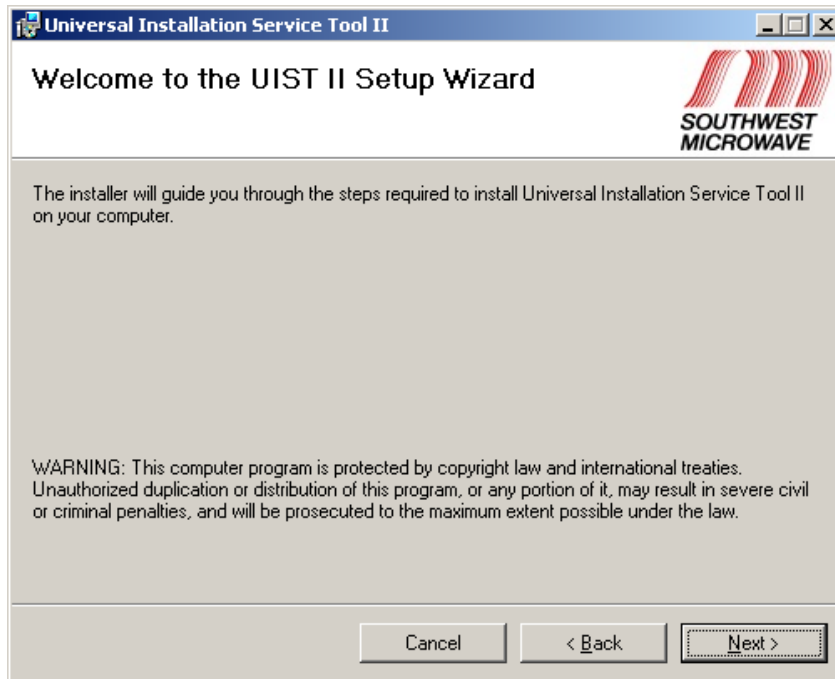

Figure 2.4 – UIST II Setup Wizard
- 2.6 Selecting “Next” from the splash screen will open the “UIST II Setup Wizard” as shown in Figure 2.4. Select “Next” to continue the setup or “Back” to step back to the previous Wizard screen or “Cancel” to stop the installation.